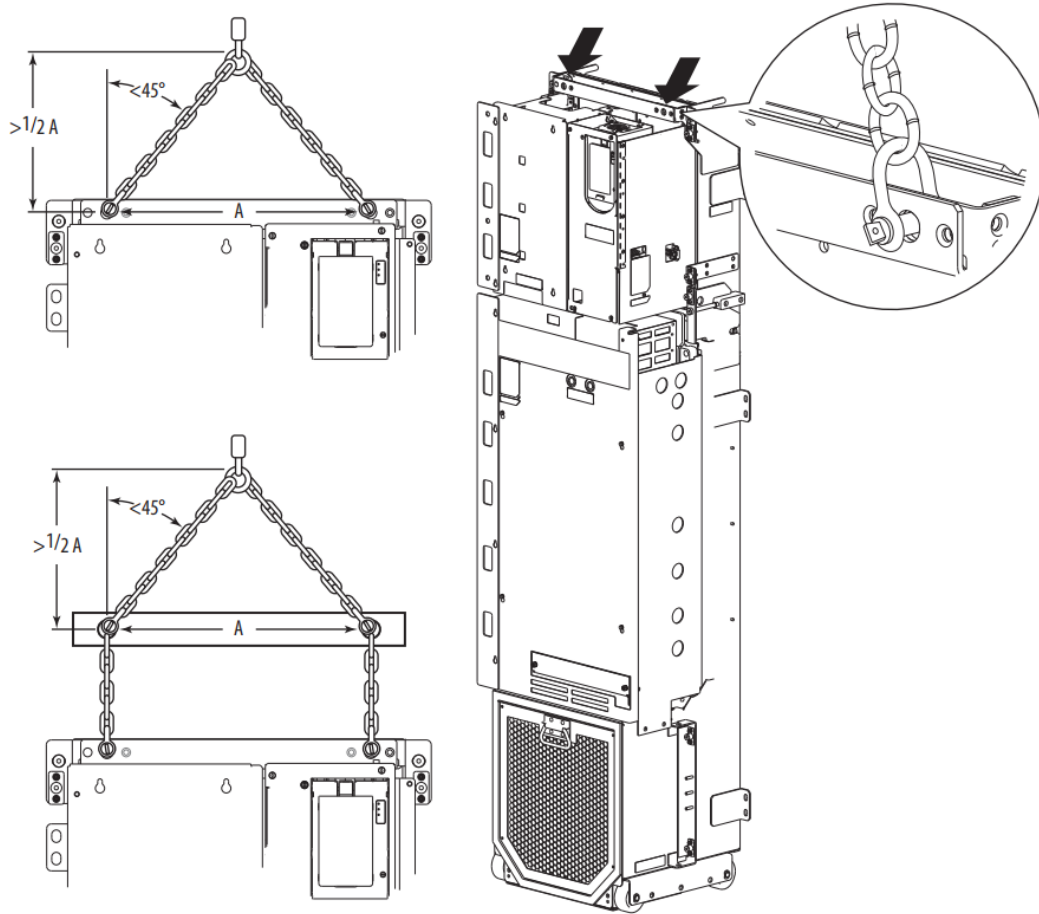

**Figure 10-2: Drive-to-Cabinet Connections**
4. Disconnect the two captive bolts that connect the converter chassis to the exhaust vent. (See number 5 in Figure 10-2).
5. Disconnect the four captive bolts that connect the converter chassis to the cabinet frame. (See number 6 in Figure 10-2).
When removing both the inverter and converter drive sections from the cabinet, do not disconnect the captive bolts that hold the two sections together. The inverter-to-converter connector bolts are labelled number 8 in Figure 10-2.
- Disconnect the six captive bolts that connect the inverter chassis to the cabinet frame. (See number 7 in Figure 10-2).